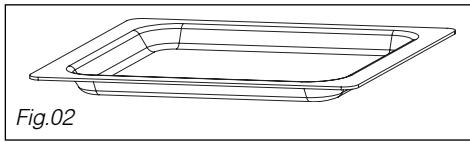

Fig.02
- *The glass drip tray (Fig.02):* It may be used half filled with water for "bain marie" cooking or fan cooking. It may be used as a cooking dish.